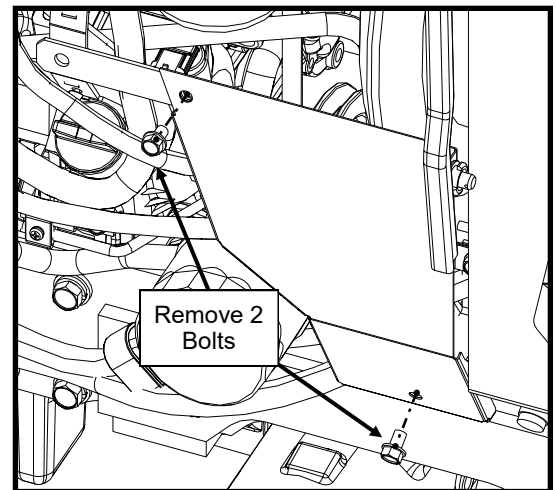

Figure 19.5 Remove Guard
- 19.5 Remove the two bolts holding the guard in place on the right side of the motor and remove the guard as shown in Figure 19.5. Save for re-use.